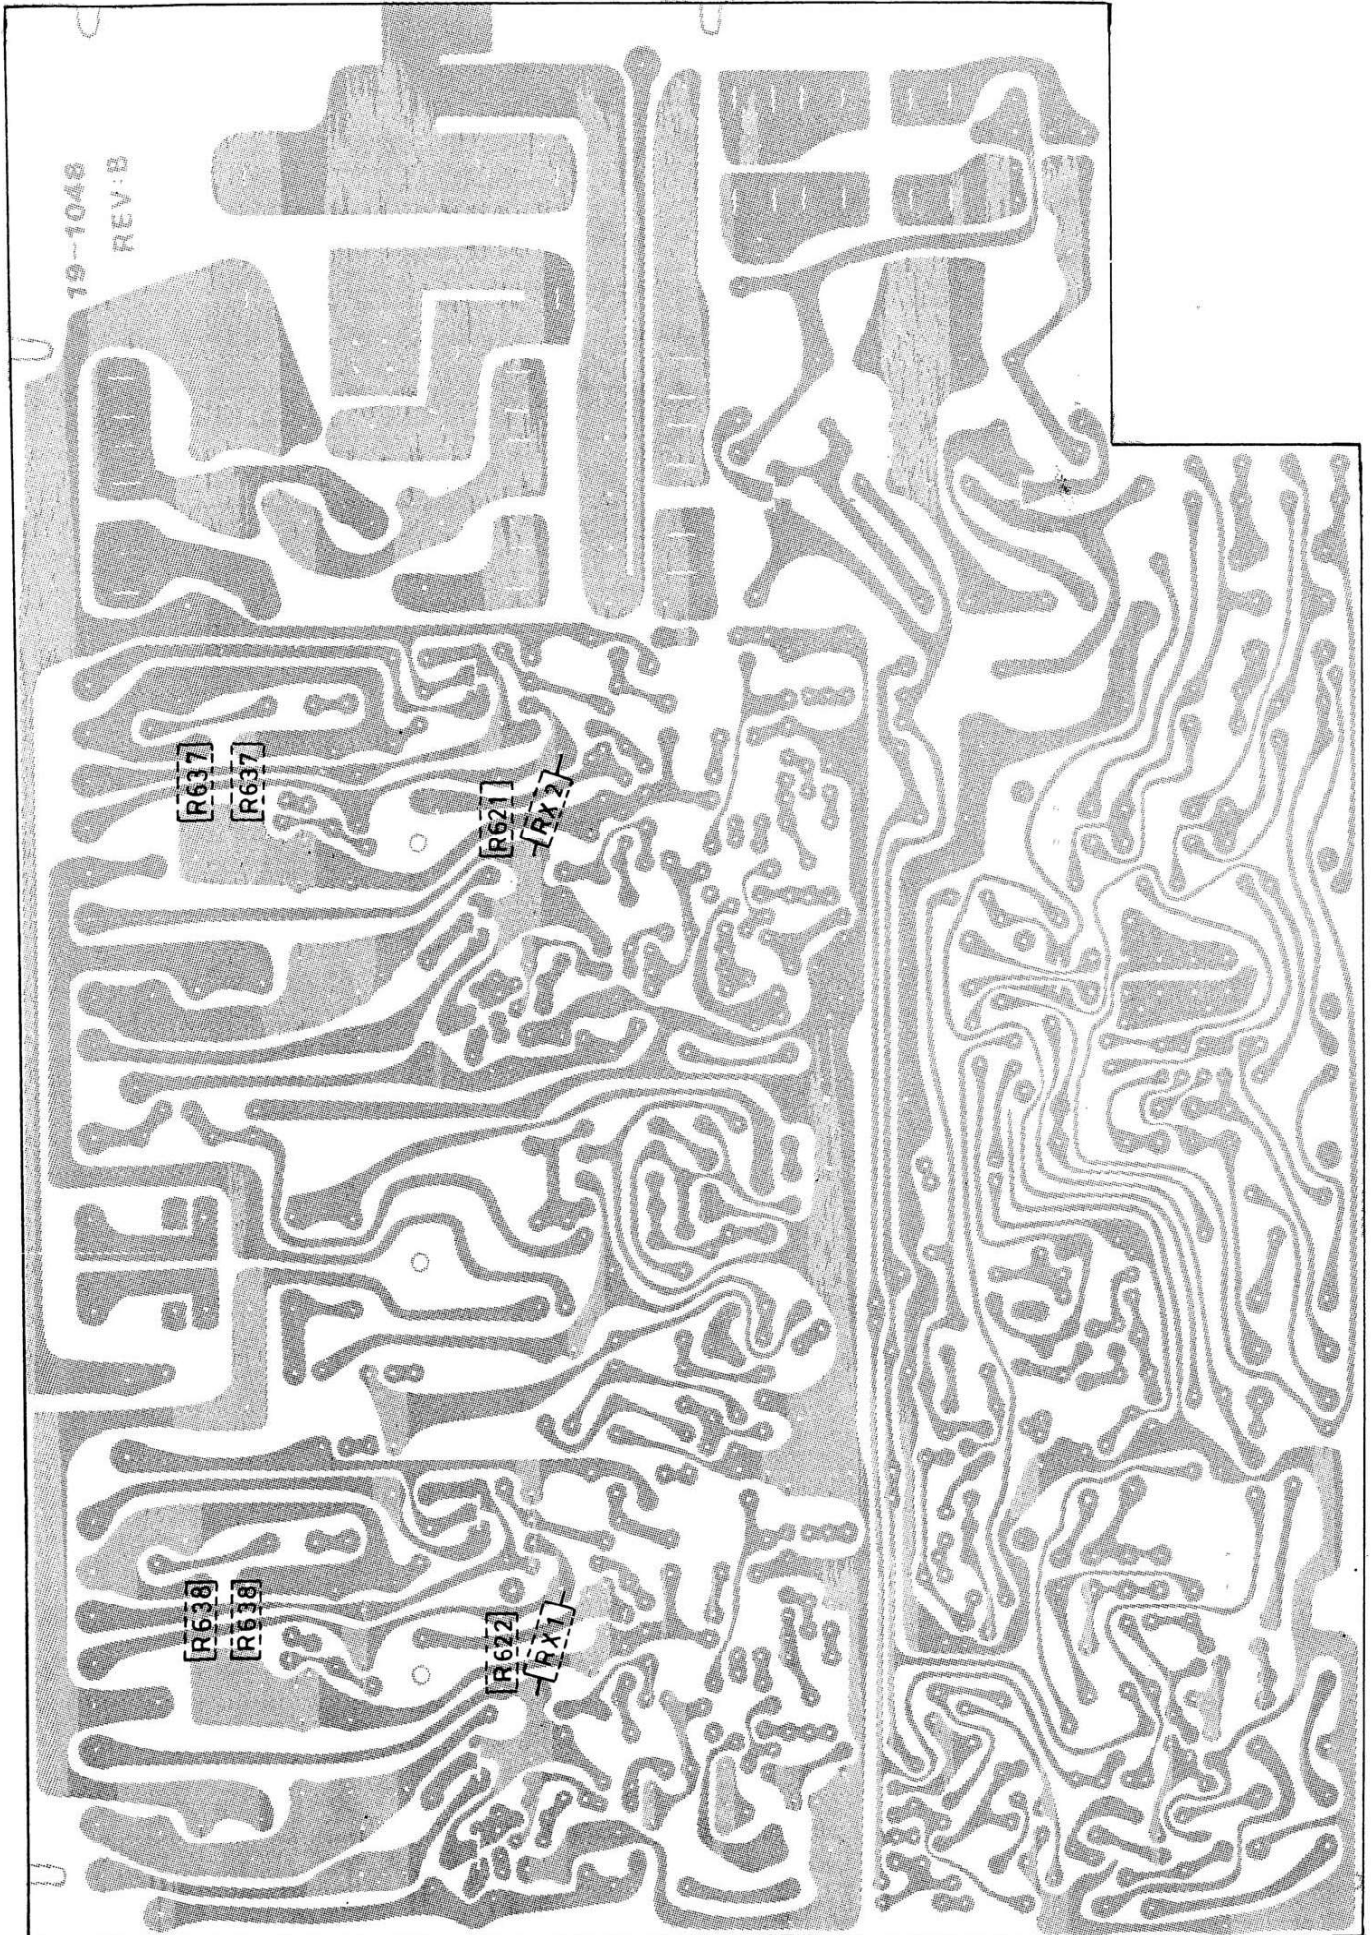

Fig. 1
4. Connect DC voltmeter across R638 for right channel and across R637 for left channel. (see fig. 1)